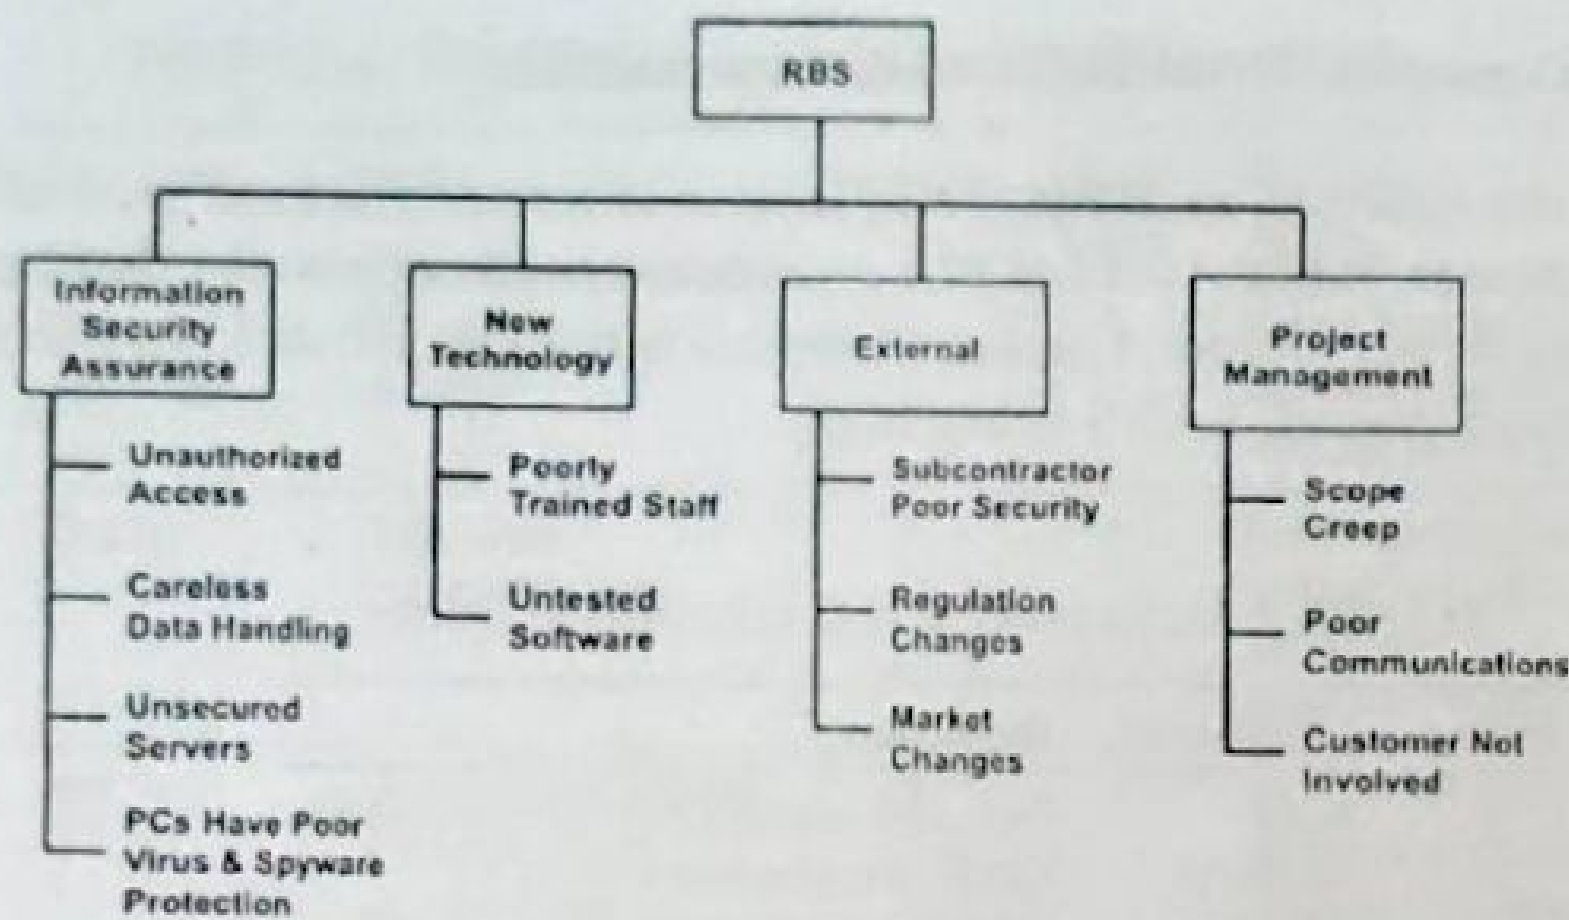

Figure 17.1: A Risk Breakdown Structure.
- *Risk Breakdown Structure (RBS)*: The RBS is a valuable tool for identifying and classifying risks. An example of an RBS is shown in Figure 17.1